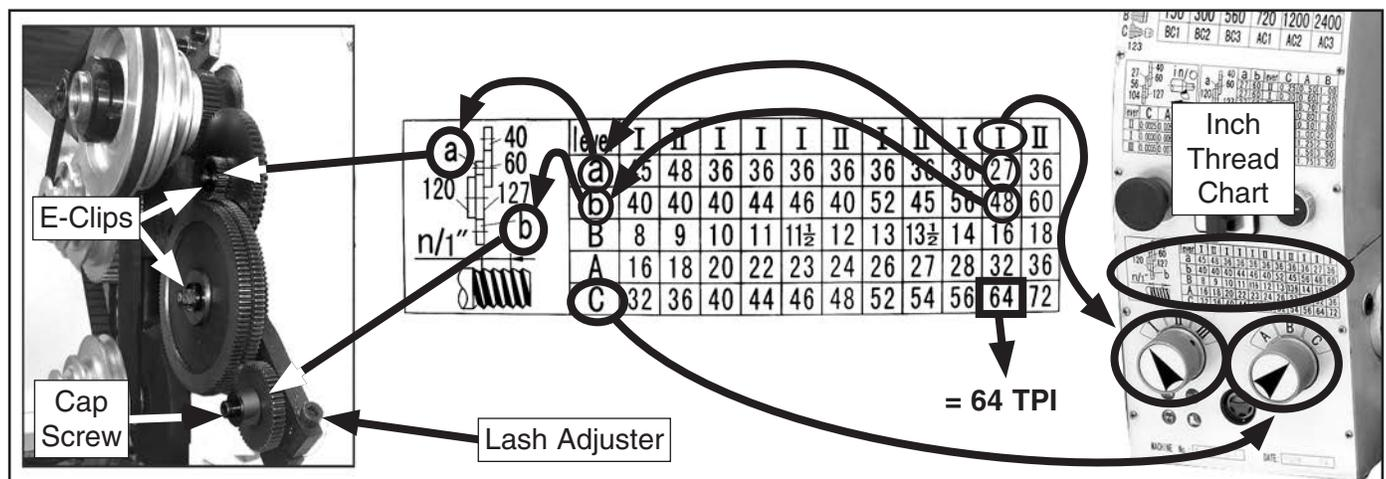

Figure 65. Threading setup for 64 TPI.
2. Turn the feed dials to the numeral and letter indicated by the chart in **Figure 65**.
6. Lubricate the change gears (refer to **Page 55** for detailed instructions) and swap them out in the order shown on the chart in **Figure 65**, then secure the change gears with the E-clips and cap screw.